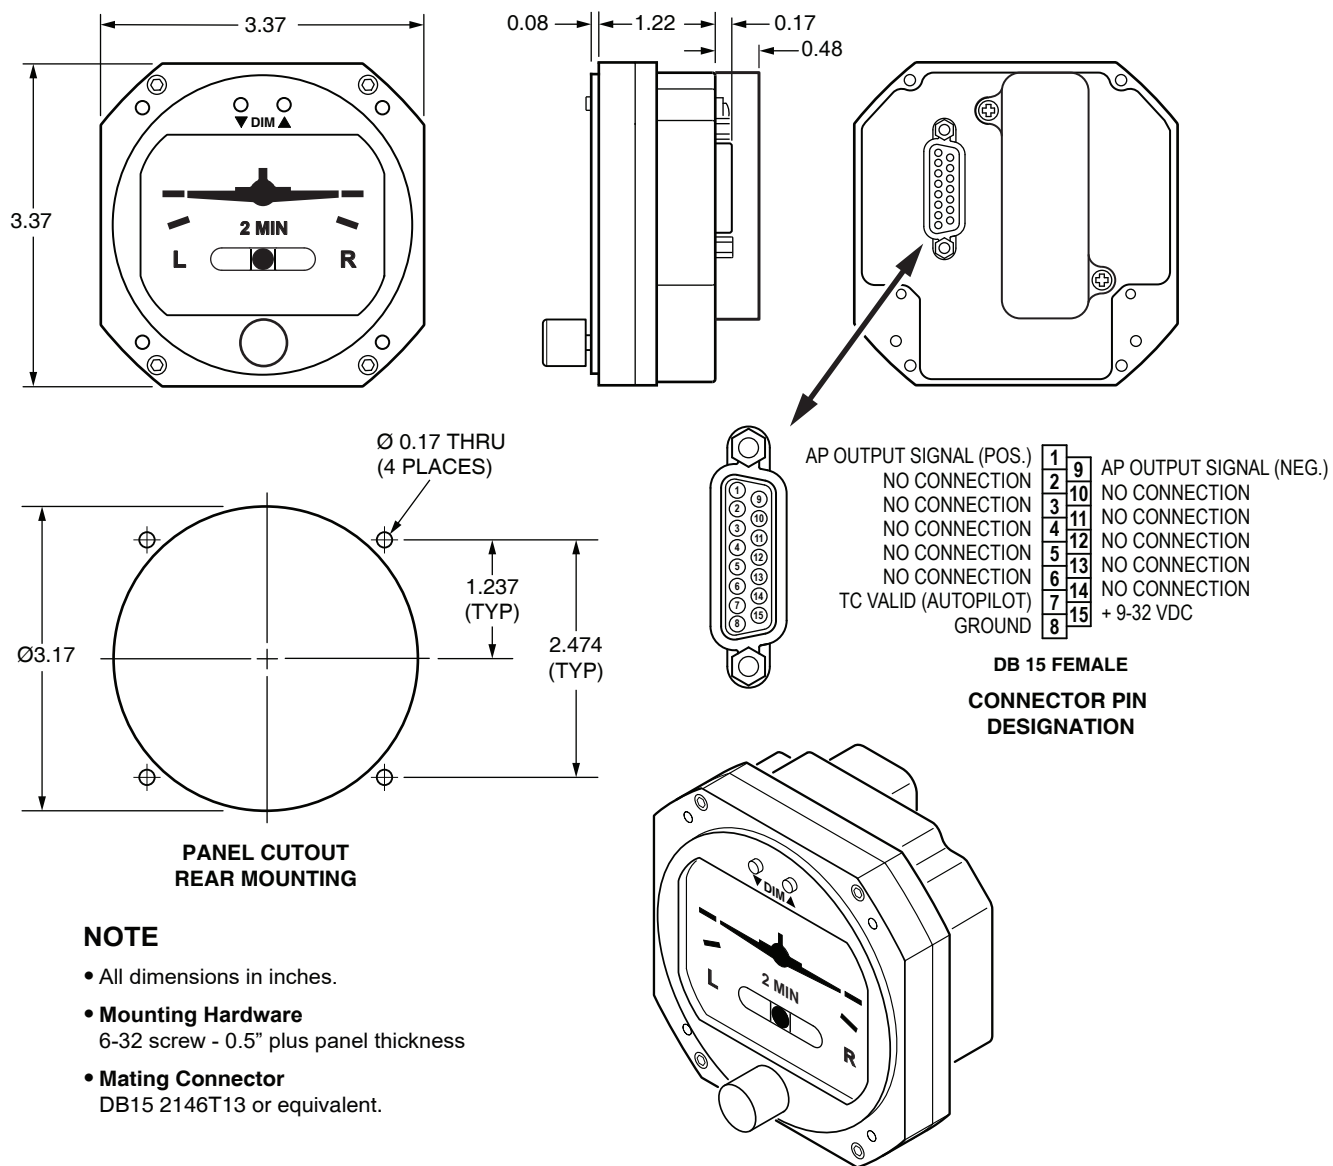

Figure 1.1, General Dimensions
DIMENSIONS/PANEL CUTOUT	SEE FIGURE 1.1
1. The RCA8310 Series Electric Turn Coordinator uses standard panel cutouts. Refer to Figure 1.1 "General Dimensions" for instrument and cutout dimensions.
3. Attach aircraft electrical connector to the instrument and insert into the instrument panel cutout (See Figure 1.1).